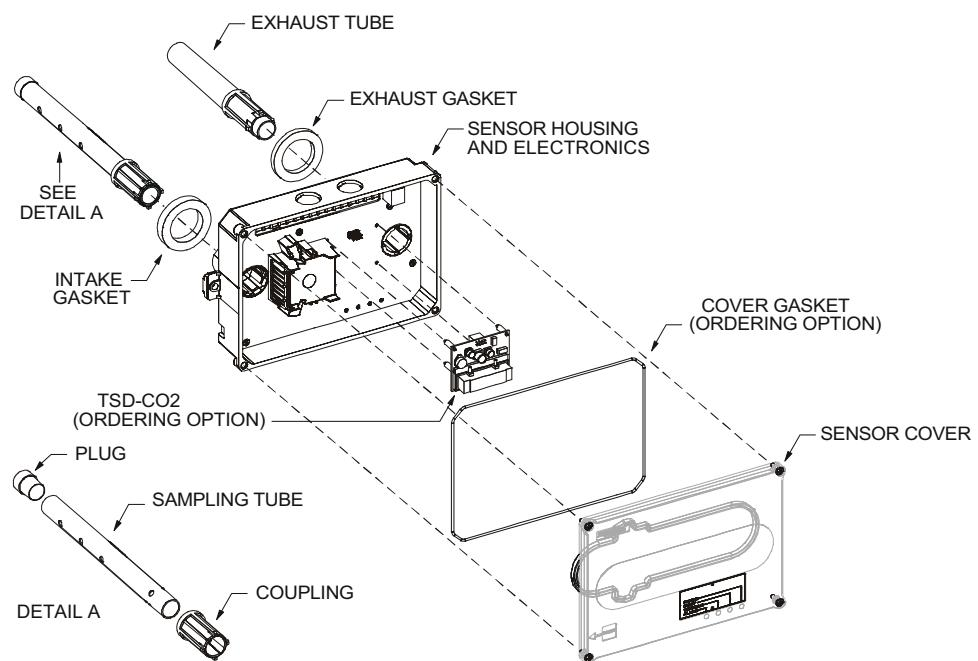

Fig. 8 — Smoke Sensor Exploded View
3. Remove plastic cover from the sensor (see Fig. 8).
4. Utilizing adapter from kit snap the pickup tube (RN20ZT060) into the adapter and plug the other end of the tube with red cap (see Fig. 8).
4. Remove plastic cover from sensor (see Fig. 8).